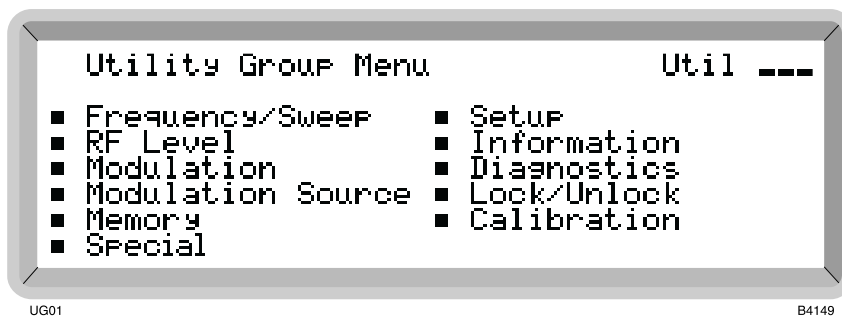

Fig. 4-9 Utility group menu
- (1) Press [CARR FREQ] followed by [MENU] to display the *Utility Group Menu* shown in Fig. 4-9. This is the top level menu of a 3-tier menu chain. Since the [CARR FREQ] function key preceded the [MENU] key, the required *Frequency/Sweep* group is already highlighted on the menu.